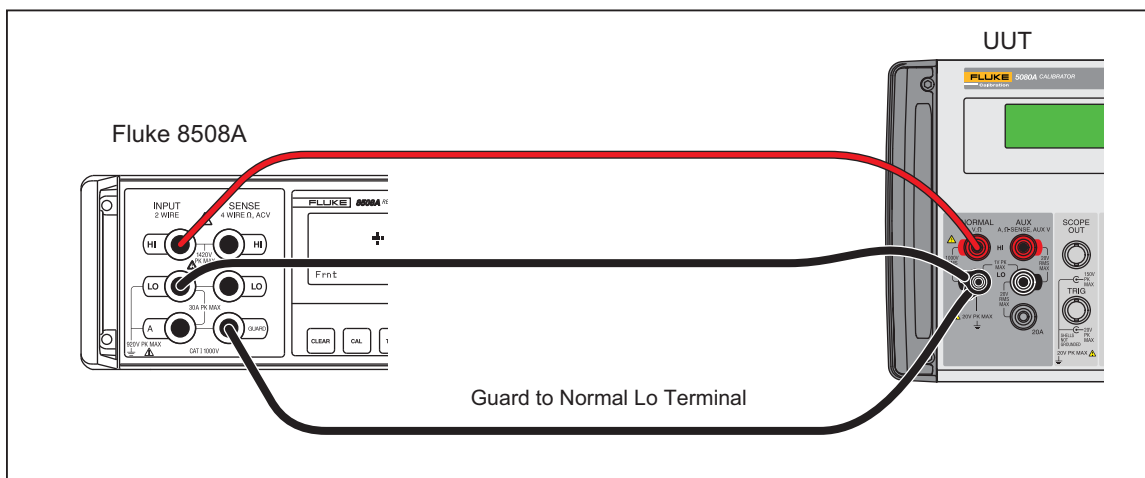

Figure 16. Connections for Calibrating 2-Wire Resistance
6. Connect the UUT to the DMM in a 2-wire ohms configuration as shown in Figure 16.